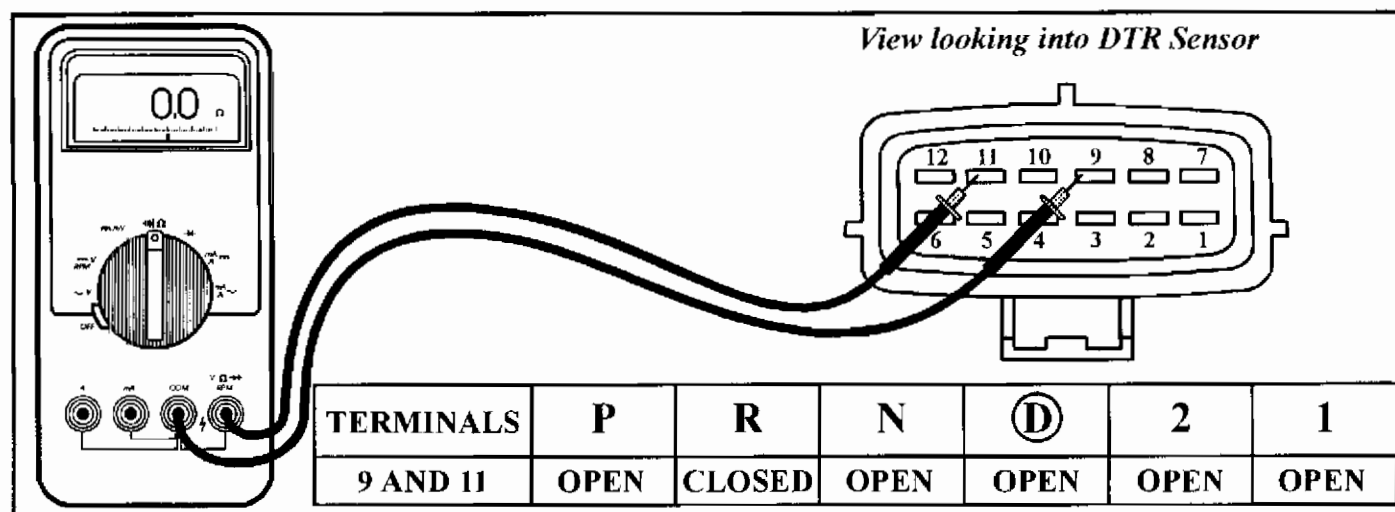

Figure 8
- (5) Testing the reverse lamp circuit is done across pins 9 and 11 of the DTR sensor, and must be checked in each selector position to determine switch integrity. Refer to Figure 8.